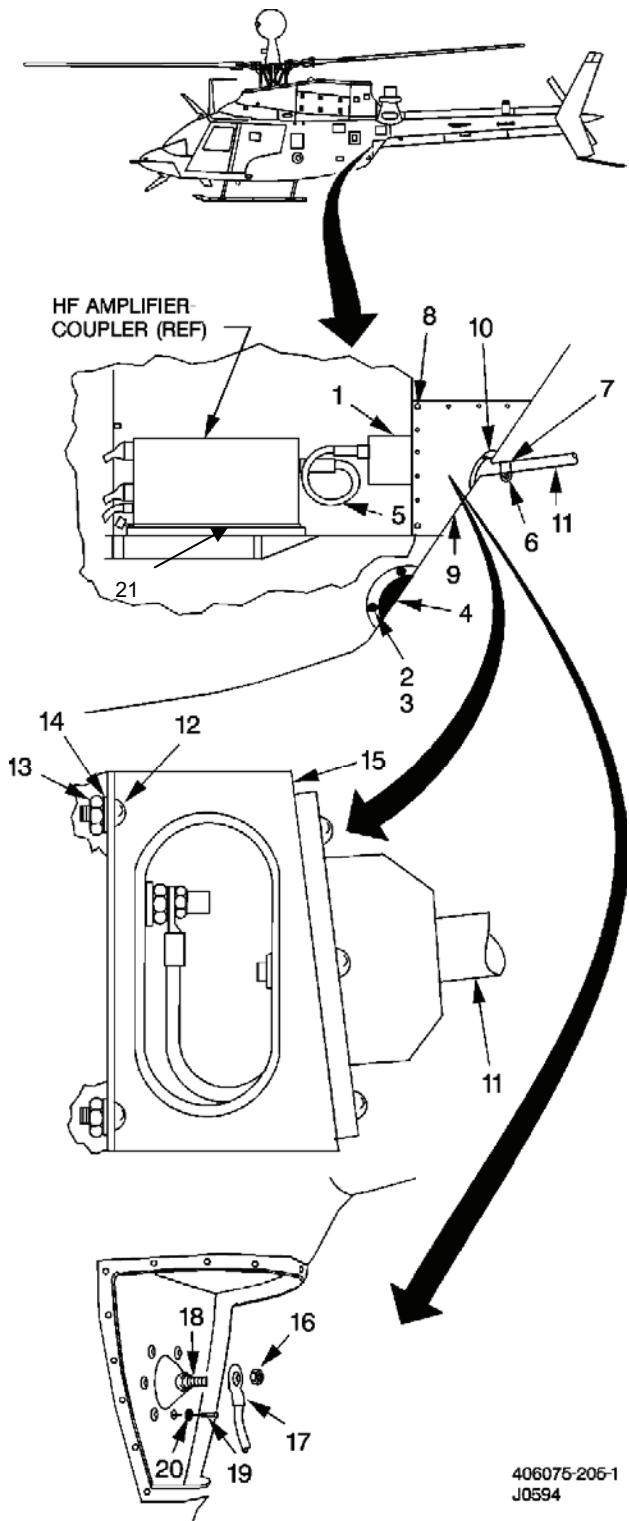

Figure 4
(16) Fabricate a cover plate from 2024 sheet stock using ring (4) from access panel (7) as a template.
(17) Prime using MIL-PRF-23377 epoxy primer and paint the cover plate.
(18) Install the cover plate using the existing screws onto access panel (7).
- d. Removal of HF-Antenna Coupler. (If installed.) (See Figure 4.)
- (1) Gain access to HF antenna coupler (1) by removing four screws (2), washers (3), and exhaust port screen (4).
- (2) Disconnect RF cable (5) from HF antenna coupler (1).
- (3) Remove four screws (12), nuts (13), and washers (14) from bracket (15).
- (4) Remove jamnut (16) and jumper assembly terminal (17) from stud (18).
- (5) Support HF antenna coupler (1) and remove six mounting screws (19) and washers (20).
- (6) Open aft electrical compartment door and remove HF antenna coupler (1).
- e. Removal of the HF - Amplifier Coupler Mounting Rack. (See Figure 4.)
- (1) Gain access to the aft electronics bay.
- (2) Remove screws attaching the mounting rack (21) to the airframe structure.